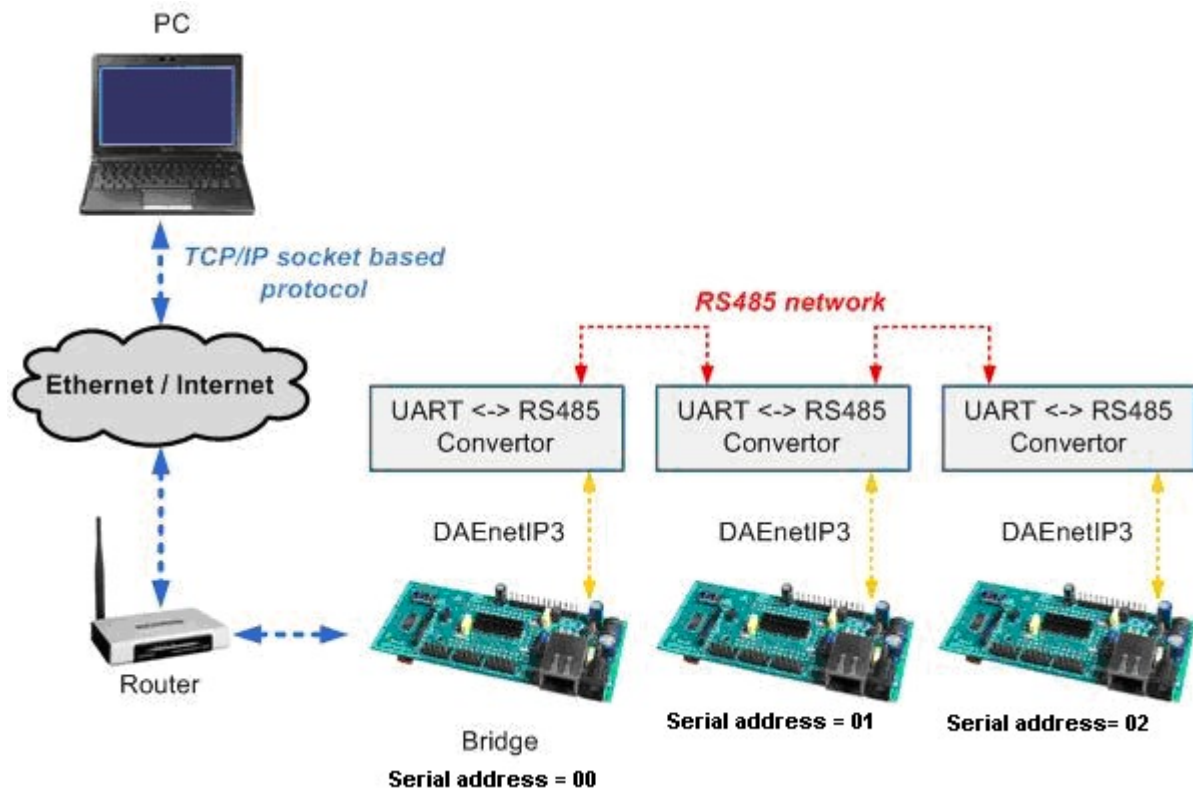

Figure 49. RS485 network with many DAEnetIP3.
The main purpose of the UART is creating RS485 network accessed over single IP (figure 49). Each DAEnetIP3 has serial address from 0 up to 254 (00-FE). The address 255 (FF) is reserved for emergency situations. For RS485 network it must be used UART<->RS485 converter (for example SN75176B).